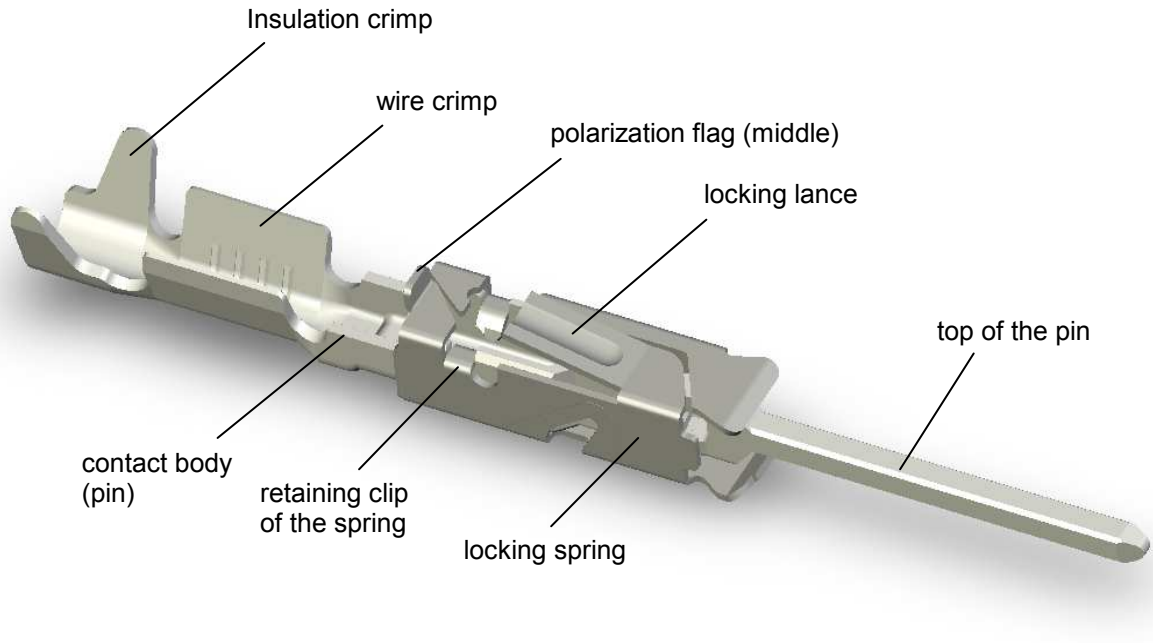

Figure 1: construction ELO 0.63 pin contact
3.1.1 ELO pin contact (see figure 1)